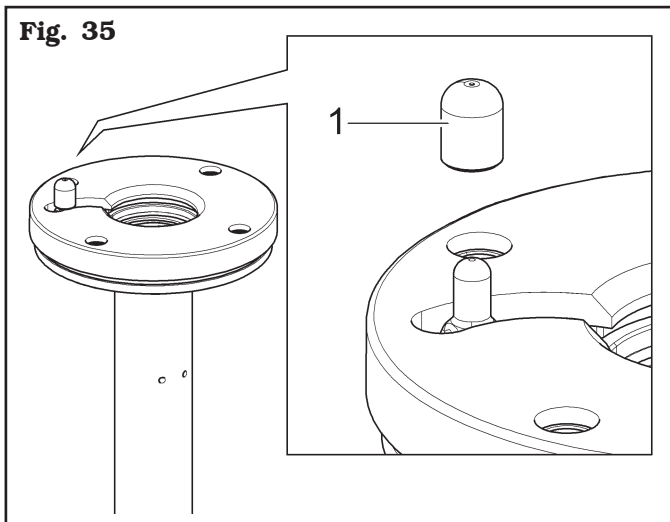

Fig. 35
7. for wheels with alloy rims, use the proper plastic guard (**Fig. 35 ref. 1**);